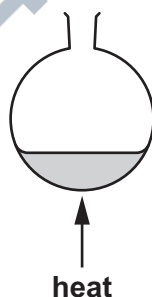

Fig. 2.1
- (a) (i) Complete the diagram in Fig. 2.1 to show the apparatus used for reflux in **step 4**. Label the diagram.